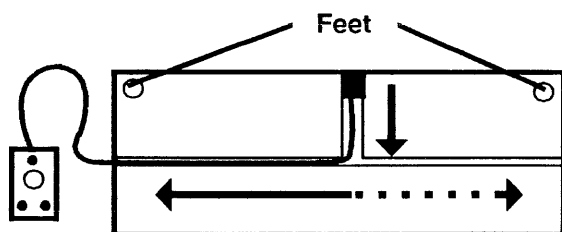

Figure 16. Bottom View of Keyboard
3. Press the mouse cable into the channel on the underside of the keyboard (Figure 16).
NOTE: In Figure 16 the mouse cable has been installed for use on the right hand side of the keyboard.
4. Extend the keyboard feet by turning them clockwise. (Figure 16.)